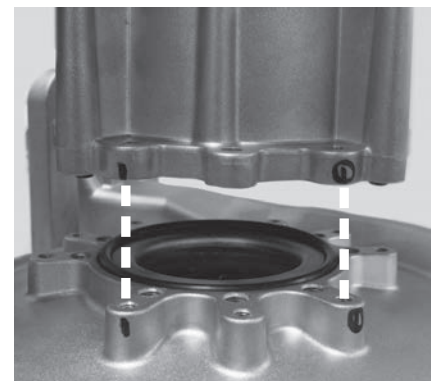

Figure 92 - Proper fan and venturi alignment
16 Install the new fan to the venturi. Reference the orientation mark on the old fan to position the new fan properly as shown in Figure 92. Use the screw hole marks on the venturi to properly install the four (4) screws previously removed in **Step 14**.